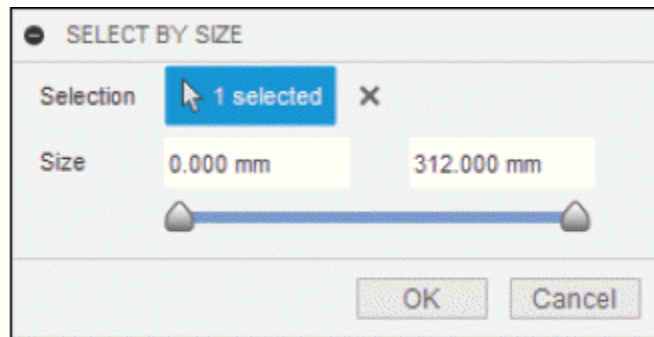

Figure-20. SELECT BY SIZE dialog box
- Click on the **Select By Size** tool from the **Selection Tools** cascading menu of the **SELECT** drop-down in **Toolbar**. The **SELECT BY SIZE** dialog box will be displayed; refer to Figure-20.